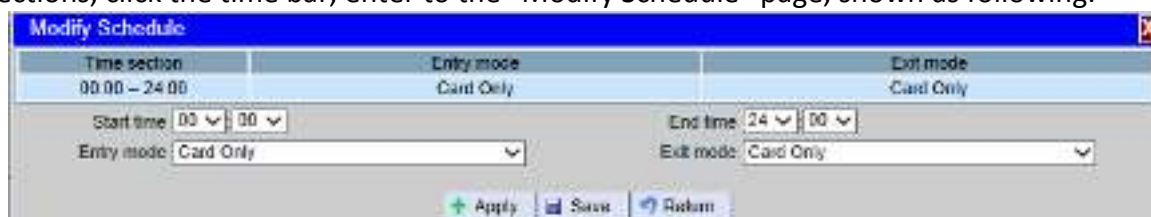

Figure13-14 Modify a Schedule
- 2) Click on one cell in the column “Day setting”, a pop-up box appears. You can set the time sections and entry/exit mode, shown as Figure13-14.